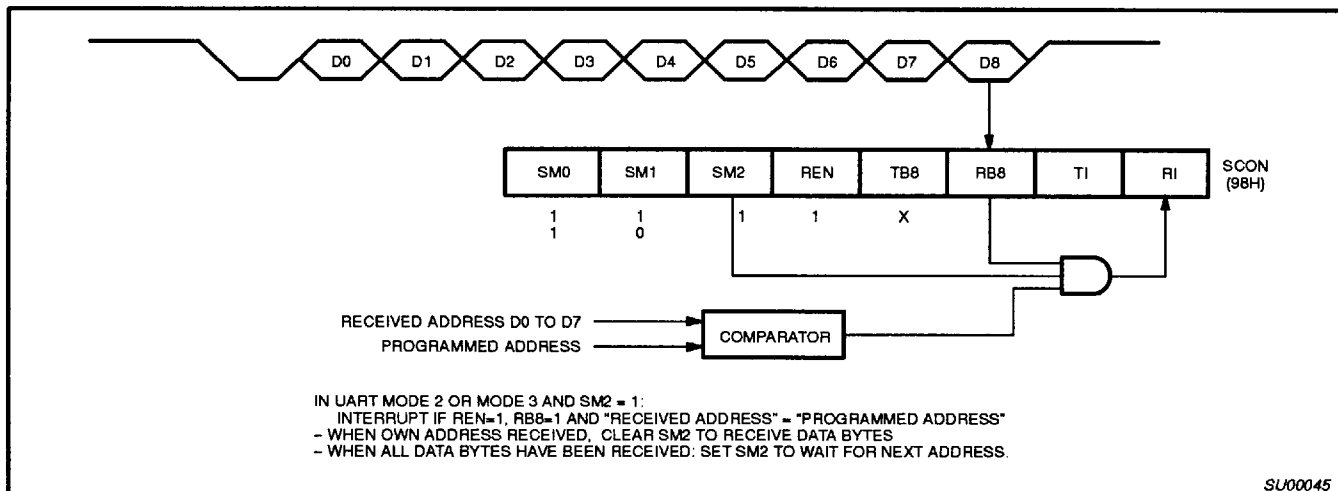

Figure 15. UART Multiprocessor Communication, Automatic Address Recognition
Automatic Address Recognition is a feature which allows the UART to recognize certain addresses in the serial bit stream by using hardware to make the comparisons. This feature saves a great deal of software overhead by eliminating the need for the software to examine every serial address which passes by the serial port. This feature is enabled by setting the SM2 bit in SCON. In the 9 bit UART modes, mode 2 and mode 3, the Receive Interrupt flag (RI) will be automatically set when the received byte contains either the "Given" address or the "Broadcast" address. The 9 bit mode requires that the 9th information bit is a 1 to indicate that the received information is an address and not data. Automatic address recognition is shown in Figure 15.